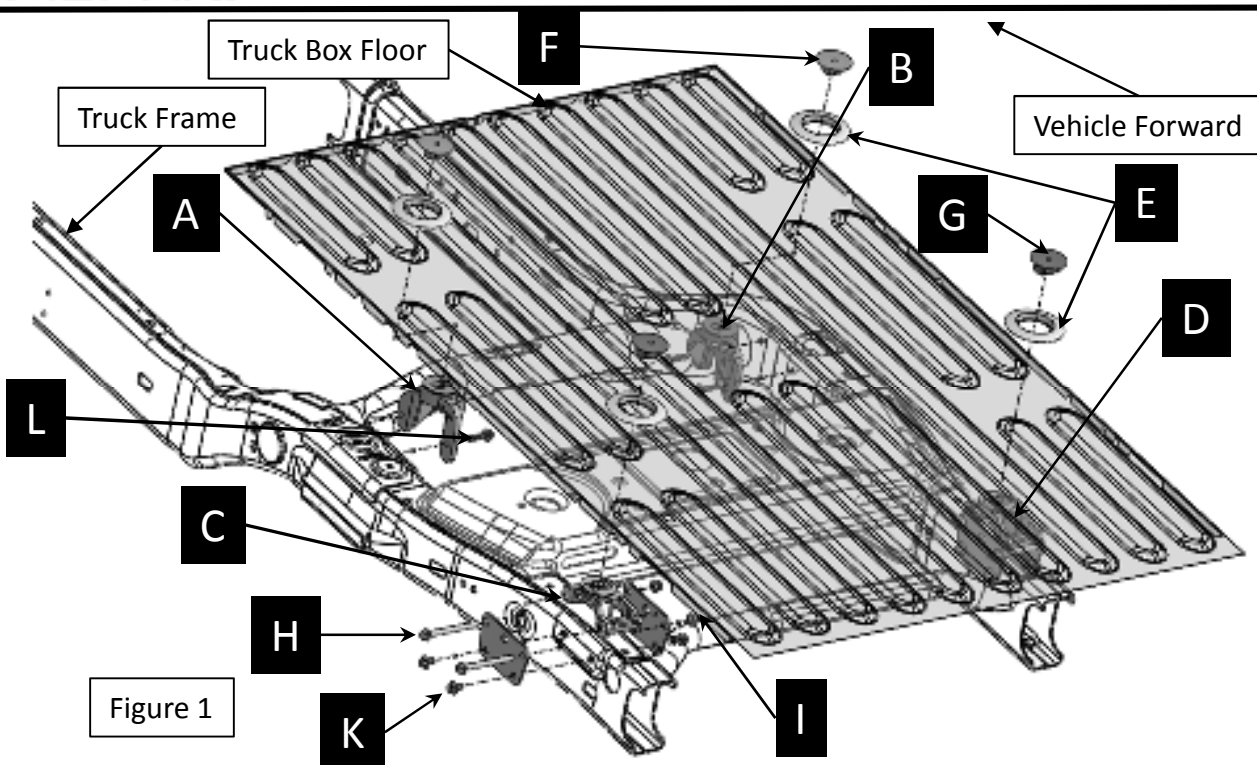

Figure 1
- 1) Review and familiarize yourself with all components (Fig. 1). Verify all components are supplied.